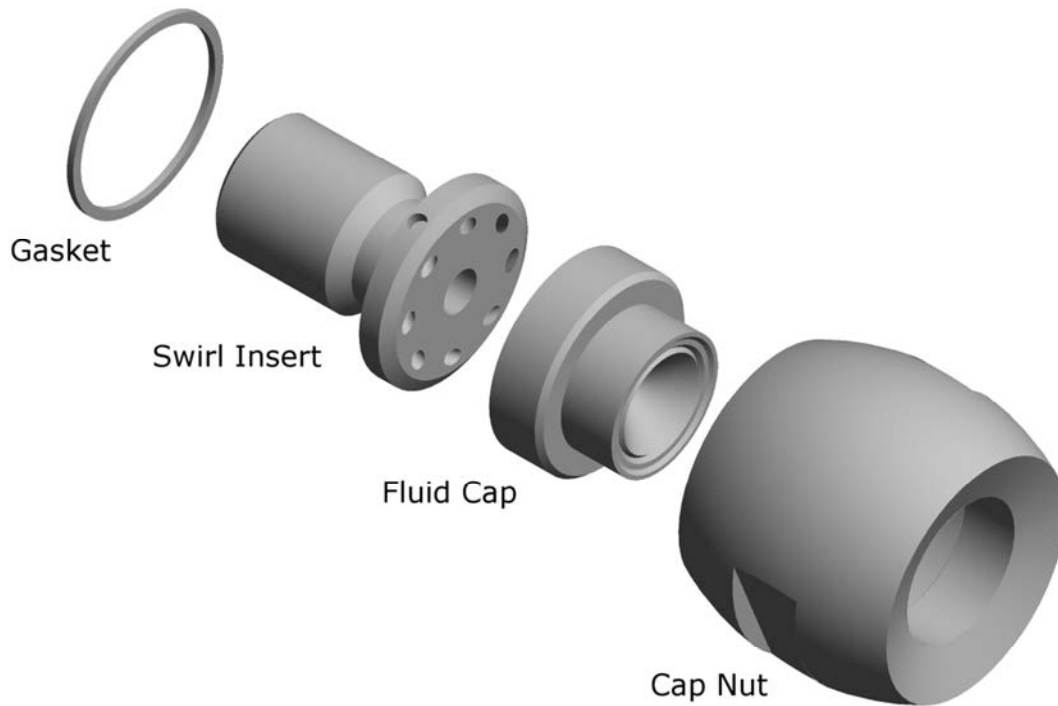

Figure 3: Exploded View 2" Nozzle Assembly
- Figure 3: Exploded View 2" Nozzle Assembly 7
- **Swirl Insert:** For 2" assemblies the swirl and insert are made as one piece. (See Figure 3)